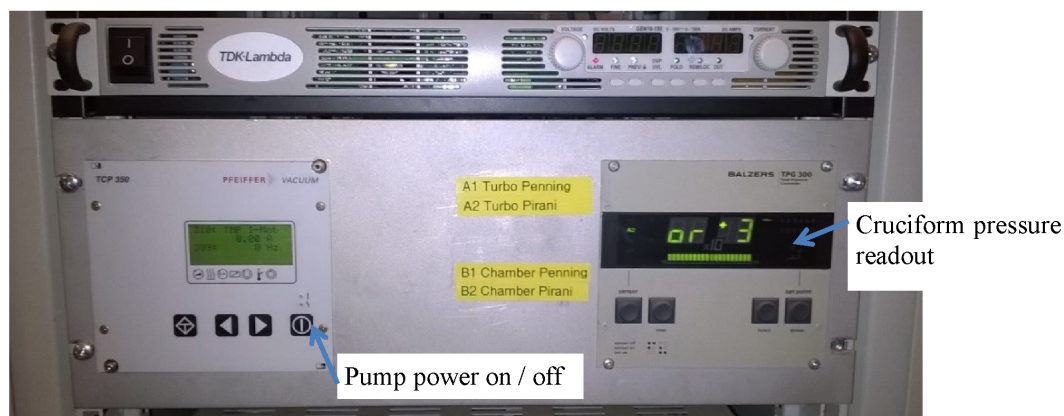

Figure 6: Vacuum pump and pressure readout
9. Start the vacuum pump (using the right-hand button on the TCP350 panel. See Fig. 6). Both the Edwards rotary pump and the turbo pump will start to spin up. The rotation speed of the turbo is displayed on the panel. It should reach a speed of 1000 Hz (~20 minutes).